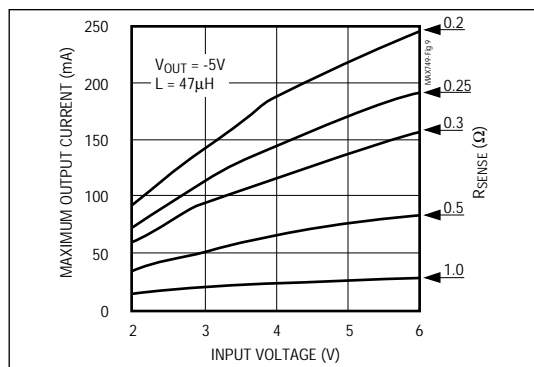

Figure 9a. Maximum Output Current vs. Input Voltage, $V_{\text{OUT}} = -5\text{V}$
To maximize efficiency and reduce the size and cost of the external components, minimize the peak current. However, since the output current is a function of the peak current (Figures 9a-9e), the limit should not be set too low.
2. In Figures 9a-9e, locate the graph drawn for the appropriate output voltage (which is either the desired output voltage or, if that is not shown, the graph for the nearest voltage more negative than the desired output). On this graph find the curve for the highest R_{SENSE} (the lowest current limit) with an output current that is adequate **at the lowest input voltage**.
The theoretical design curves shown in Figures 9a-9e assume the minimum (worst-case) value for the current-limit comparator threshold. Having selected the current-sense resistor, the maximum current limit is given by $180mV/R_{SENSE}$. Use the maximum current-limit figure when choosing the transistor, coil, and diode.